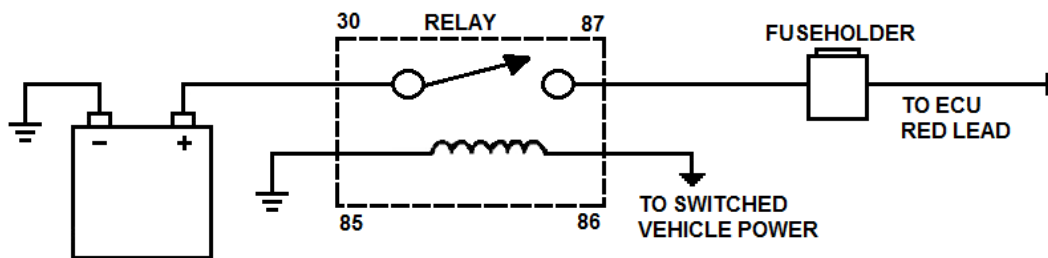

Figure 15: Primary Power Connection with Relay
1. Locate the single red wire in the wiring harness, the power relay, the fuse holder cable assembly, and four (4) female quick-disconnect terminals (#49-C).
3. Connect a 16 gauge stranded wire from the positive terminal of the battery to terminal position **30** on the relay. Terminate the wire with a female quick-disconnect terminal and then plug the terminal into the relay (Fig. 15).